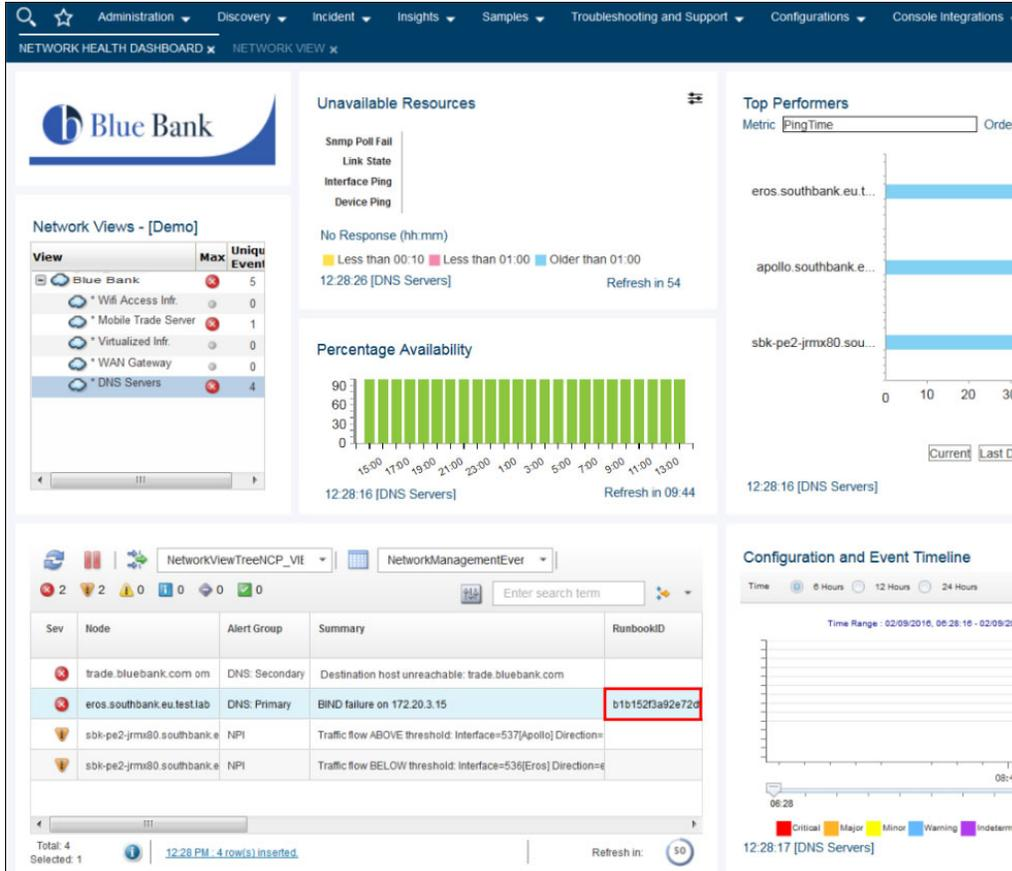

Figure 2-21 Network Health Dashboard Events list show Runbook IDs that are associated with events
- A Runbook ID that is associated with the DNS Service is shown automatically by the alert viewer, as shown in Figure 2-21. Annette concludes that the issue is DNS-related based on confirmation that there are no issues with Wifi Access infrastructure, Virtualized infrastructure Utilization, WAN Gateway, and Service Availability, coupled with Netcool Operations Insight having identified a BIND (DNS) Failure in Step 3.